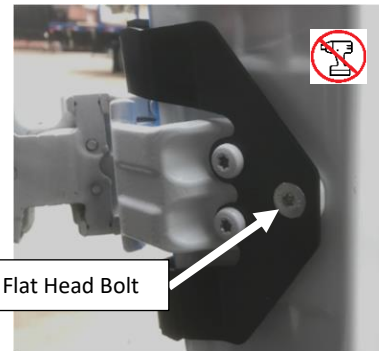

Figure 7: Bracket Installed Over Factory Hinge
18. Tightening the bracket down using the factory hardware and the M8 countersunk bolt (70477) to reinstall the hinge/bracket (Figure 7).